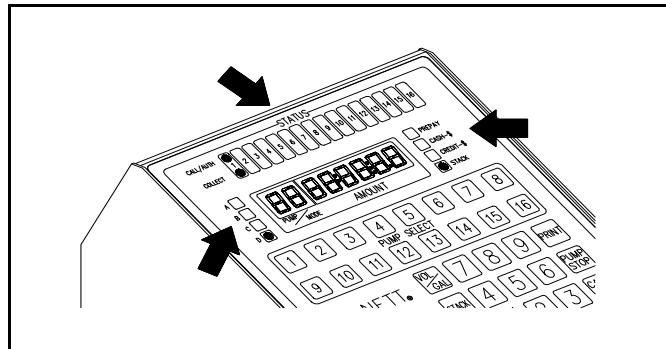

Figure 20
**The Status Lights.** See Figure 20.